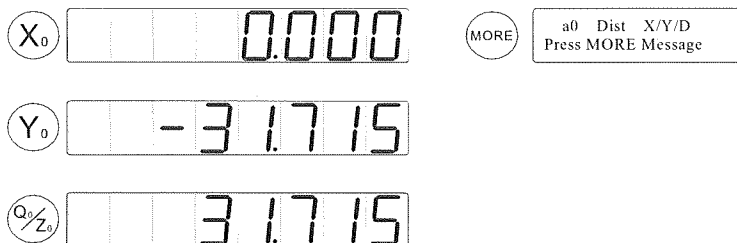

Figure 2-36 Distance Message
- c. Move the stage to place the crosshairs over the second point, press the  key. The Distance feature data will be displayed as in Figure 2-36, and it will be added to the feature list with its data. The data will include displacement on the X axis, displacement on the Y axis, and the total vector displacement from the first to the second point.